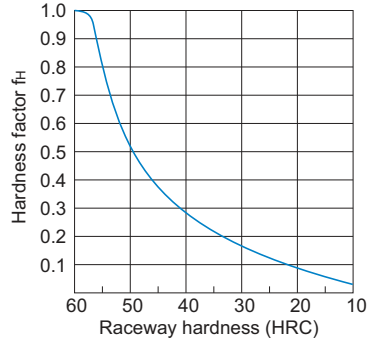

Fig.1 Hardness Factor (f_H)
- C : Basic dynamic load rating (N)
- P : Applied load (N)
- f_H : Hardness factor(see Fig.1 on B0-11)